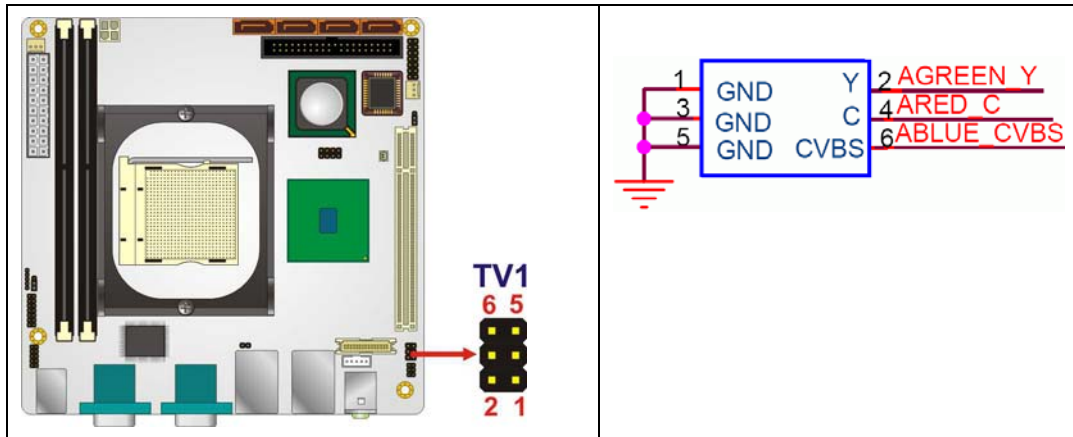

Figure 4-14: TV Connector Pinout Locations
- CN Location:** See Figure 4-14